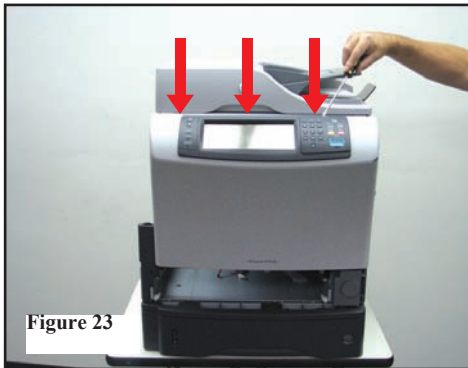

Figure 23
21. At the front of the MFP remove the control panel by prying under slots (3) at top, then disconnect cable. (Figure 23)